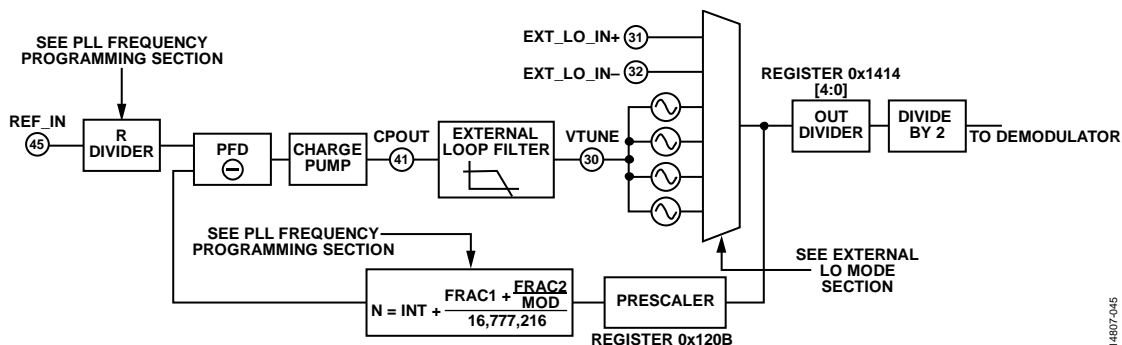

Figure 46. PLL/VCO Block Diagram
For internal LO mode, the ADRF6821 uses the on-chip PLL and VCO to synthesize the frequency of the LO signal. The PLL, shown in Figure 46, consists of a reference path, phase and frequency detector (PFD), charge pump, and a programmable integer divider with prescaler. The reference path takes in a reference clock and it is divided down by a value calculated with a reference (R) divider together with a doubler bit and a prescaler bit. Then the divided down reference signal passes to the PFD. The PFD compares this signal to the divided down signal from the VCO. The PFD sends an up or down signal to the charge pump if the VCO signal is slow or fast compared to the reference frequency. The charge pump sends a current pulse to the off-chip loop filter to increase or decrease the tuning voltage (V_{TUNE}).